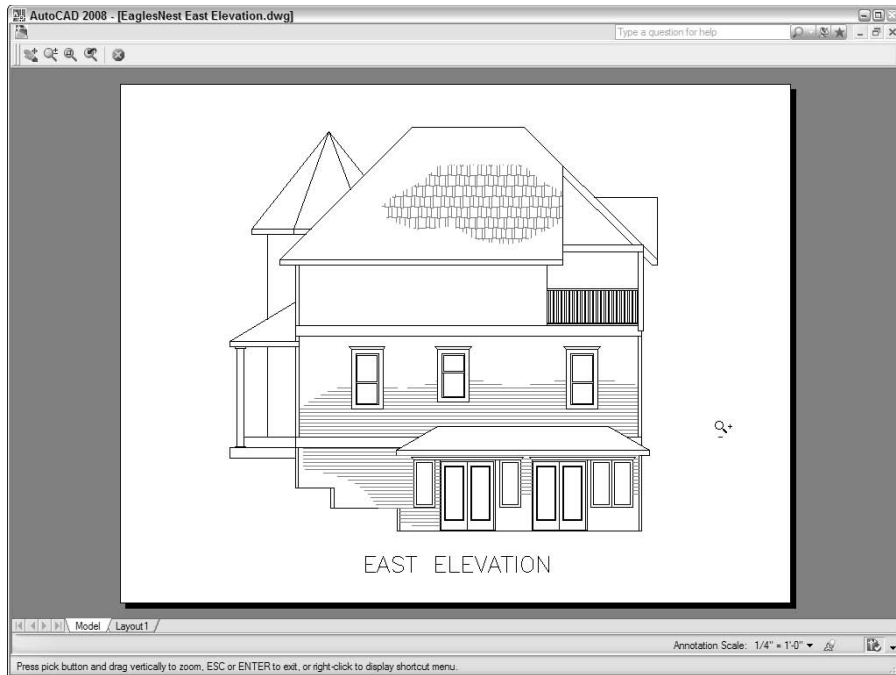

Figure 13-4:
- Click the Preview button and check that the drawing displays on the paper at the correct orientation and size, as shown in Figure 13-4; then right-click and choose Exit to return to the Plot dialog box.**